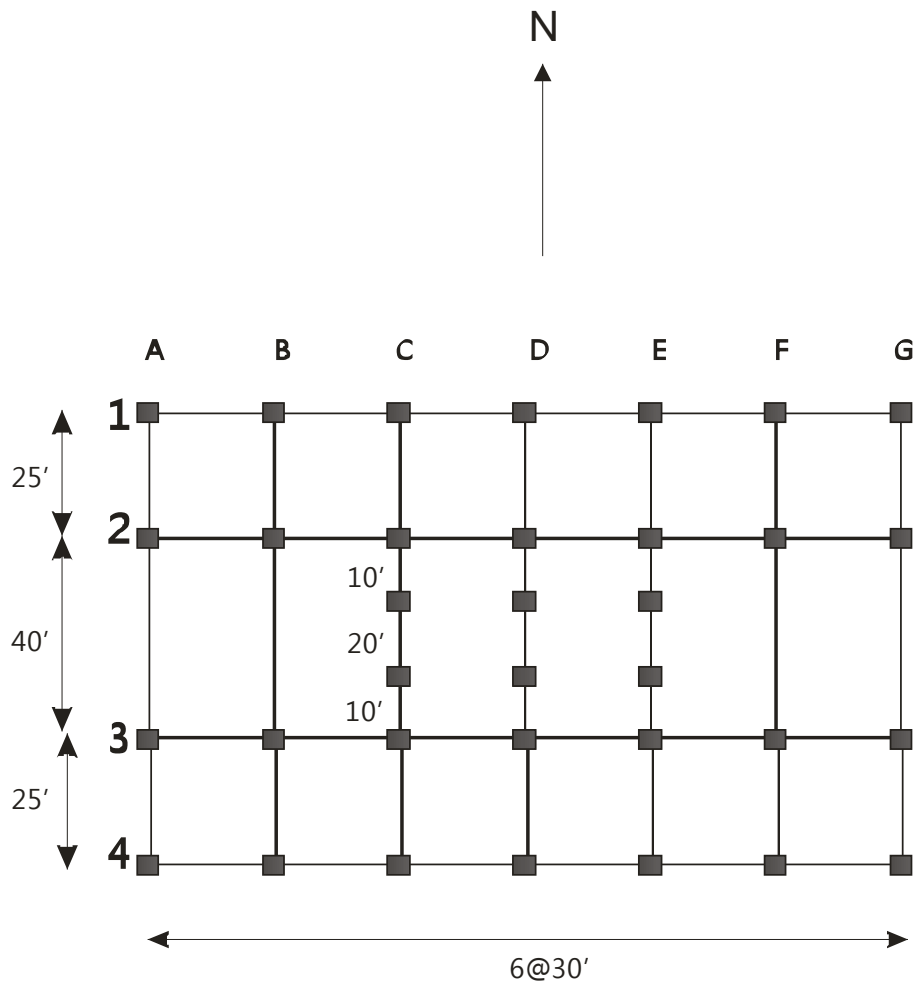

Fig. 1.1 Typical floor plan
**Problem Statement** (Do **NOT** use this specific example): The overall task is to analyze a 16-storied building located in Tempe downtown for one unfactored load case - dead plus live plus wind load (blowing N-S). The floor plan is shown in Fig. 1.1. The height from the basement to the lobby is 16 ft. The 15 other floors heights are 13 ft each. The floor system consists of 3" cellular steel deck with 2.5 inch concrete slab, supported on the steel joists. Live loads are 100 psf on the first, or lobby floor, 80 psf on the upper floors, and 20 psf on the roof. Use appropriate bracing between columns to reduce lateral deflections as well as increase the torsional resistance. Assume felt and gravel roofing as 6 psf and decking as 42 psf on the roof.